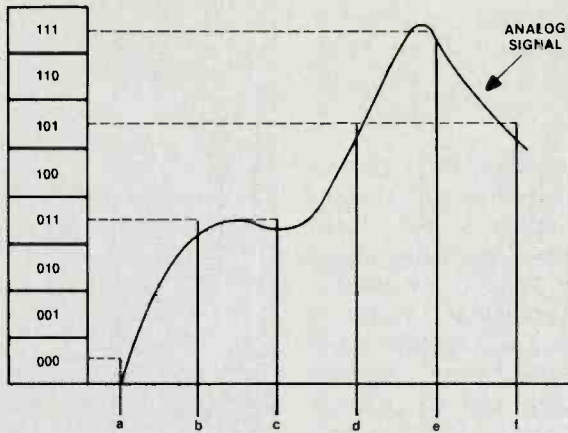

Figure 8.
Consider the analog signal in Figure 8. Samples are taken of this signal at points *a* through *f*. In other words these represent the sample-and-hold voltages. The amplitudes may be represented by one of eight binary values. At sample point *a*, the nearest binary number is 000. At *b* and *c*, the same binary number (011) represents the two voltages for the samples taken. At points *d* and *f*, the binary representation is 101. Finally, at *e*, the highest point, the binary representation is 111.